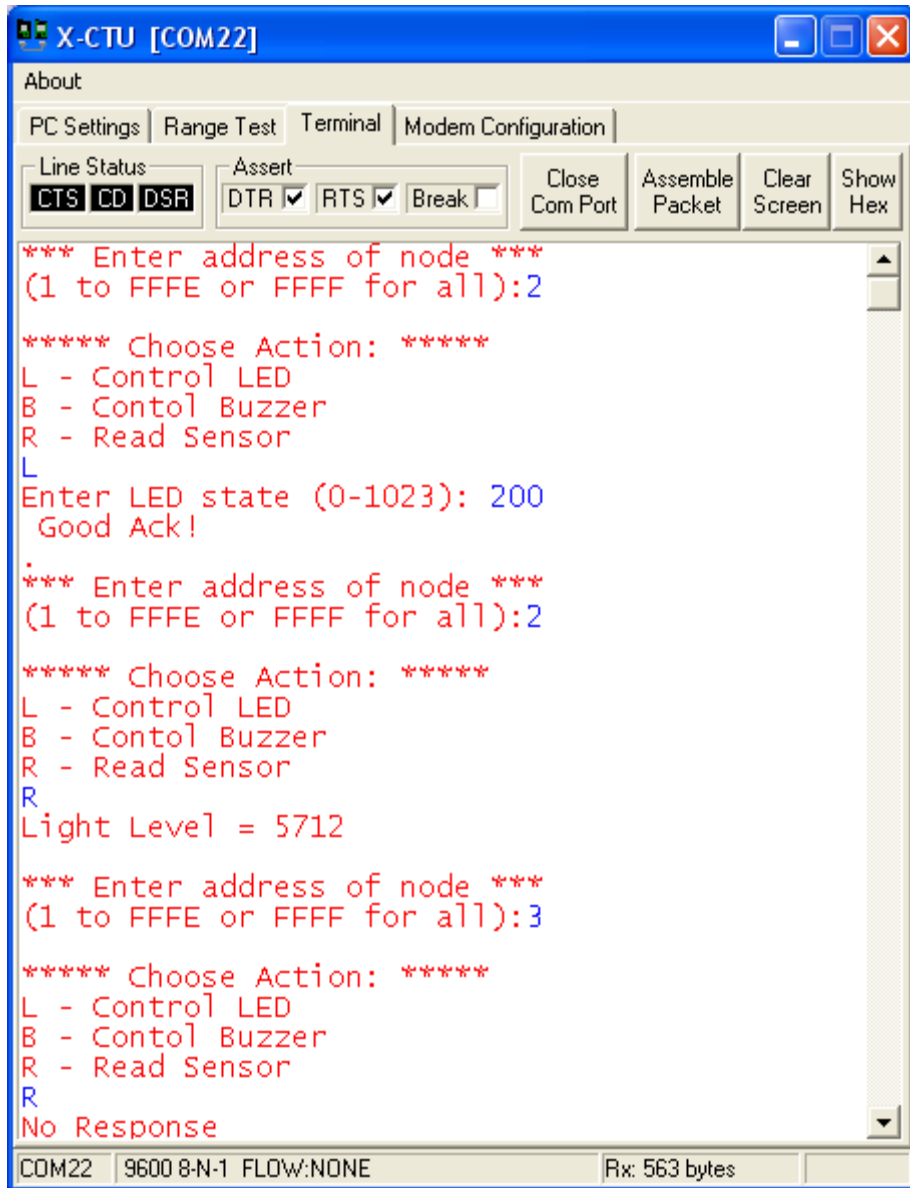

Figure 5-10: Manual Polling Base Terminal
- ✓ Open a terminal program (X-CTU or other) on the PC for communications with the base and respond to prompts as shown in Figure 5-10. If you used F11 to download your code, you may reset the Propeller to catch initial messages.